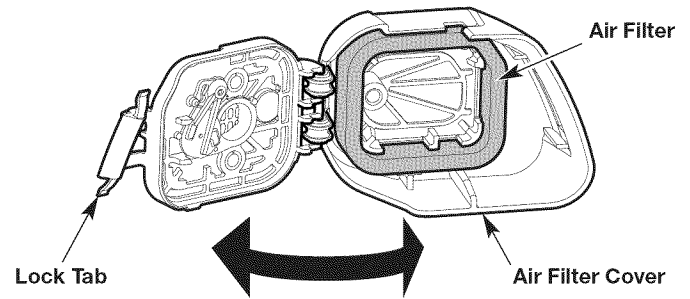

Fig. 16
1. Open the air filter cover: press in the lock tab and swing the air filter cover to the right (Fig. 16).
2. Remove the air filter from inside the air filter cover (Fig. 16).
6. Reinstall the air filter inside the air filter cover (Fig. 16).
7. Close the air filter cover: swing the air filter cover to the left and press it closed until the lock tab snaps into place (Fig. 16).